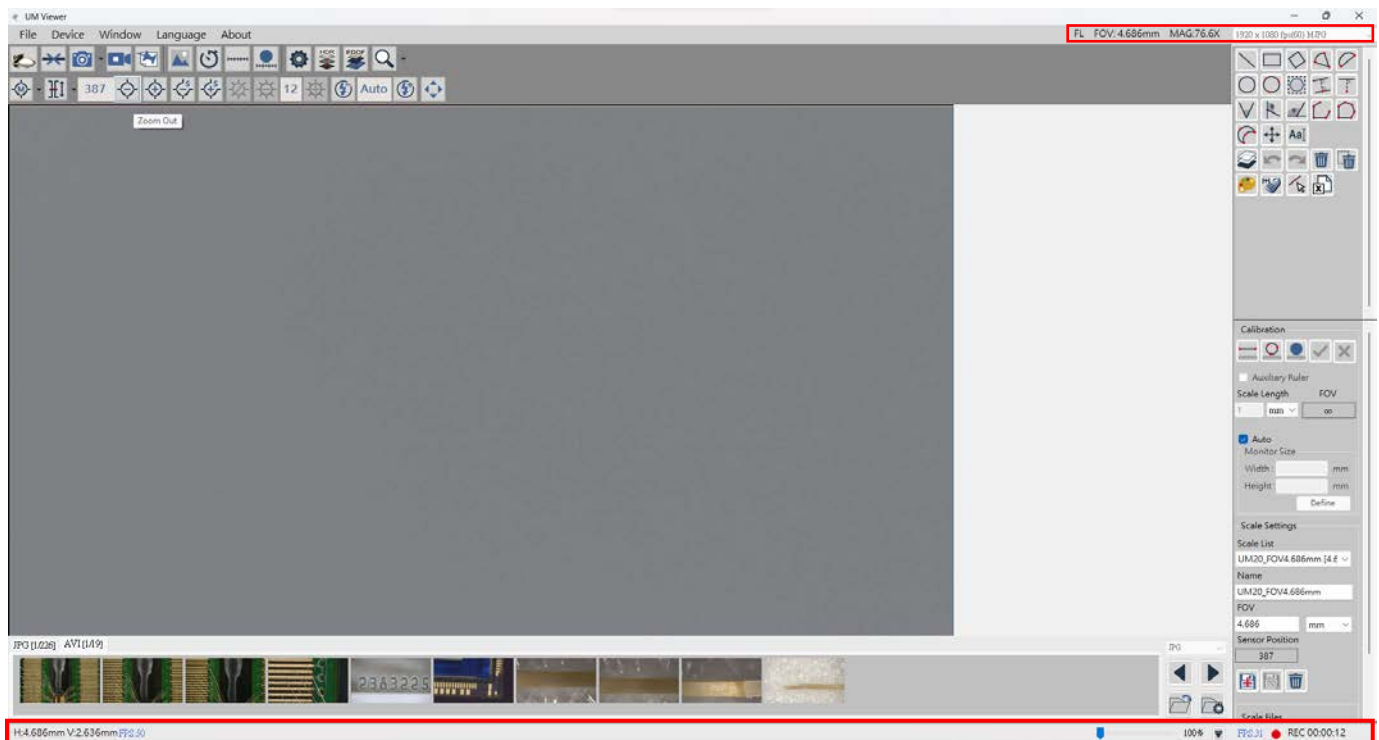

Fig 1-7 Status Information
The area indicated by the red box in the upper right corner of Figure 1-7 displays the current FOV (Field of View, horizontal visibility area), MAG (magnification), and signal source resolution. When the machine's focus position changes or is recalibrated, both FOV and MAG will change accordingly. The dropdown menu allows you to switch the preview resolution (to select YUV image quality, USB3.0 must be connected).
The area inside the red box at the bottom of Figure 1-7 displays information about the recording status and recording time. The values H and V represent the horizontal (H) and vertical (V) values of the FOV, which change with the FOV. The FPS (frames per second) in the lower left corner indicates the number of frames per second in the preview state, while the FPS in the lower right corner indicates the number of frames written to the file during recording. (FPS values may decrease due to the complexity of the image and computer performance).